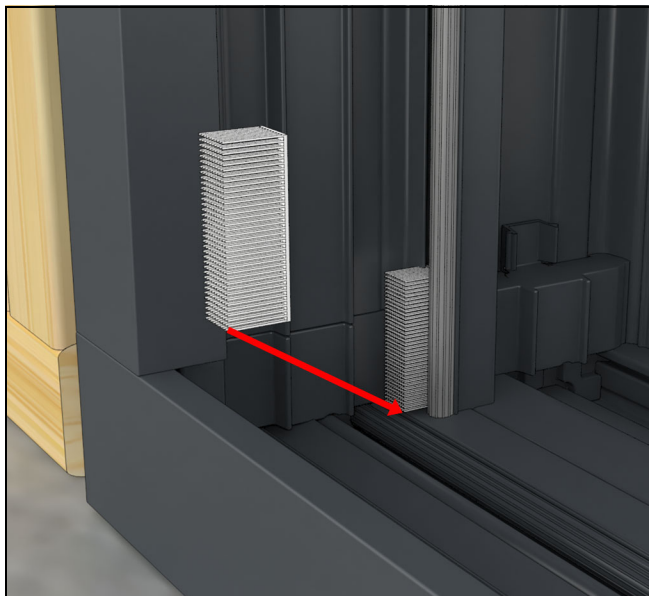

Figure 73
12. Place another dust block at the bottom of the jamb behind the jamb weather strip. See Figure 73.